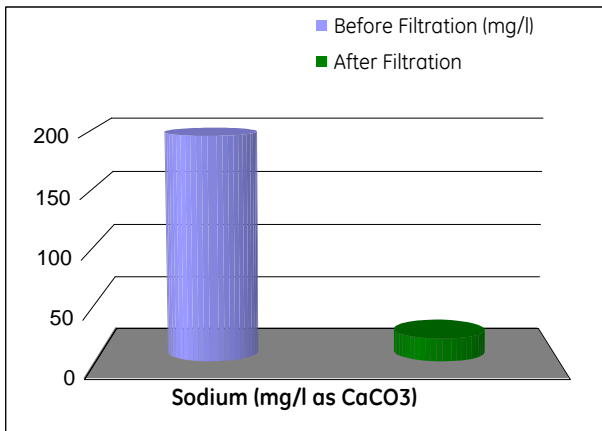

Figure 2: Sodium before and after filtration
**Water Sample Comparison Chart** - A comparative analysis of water quality before and after filtration treatment shows remarkable improvement in purity (Figures 2 to 5).